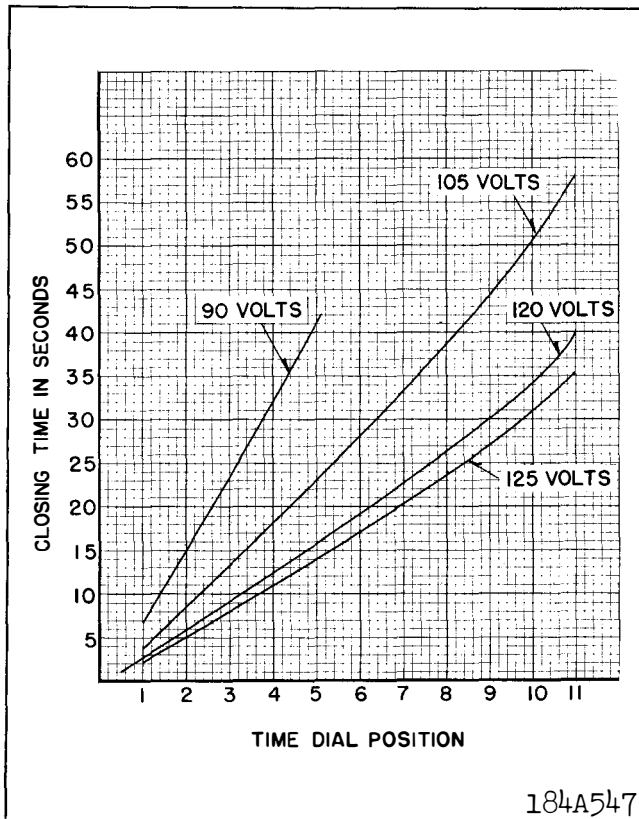

Fig. 4. Typical Time Curves of the Timer Unit of the 120 volt Type CRN-1 Relay. Proportional voltage apply for the 208 volt relay.
The timer unit is rated at 120 or 208 volts, 60 cycles. The minimum trip value is 54% of rated voltage. The continuous overload capacity is 110% of rated voltage. Characteristic time curves are shown in Fig. 4 for various voltages and time lever settings.
it is adjusted by the time dial position. Fig. 4 gives a curve of time delay vs time dial setting for various impressed voltages. Time is approximately proportional to time dial setting.
3. Time Curve – Fig. 4 shows the time curve for the CRN-1 relay. With the time dial set to the indicated position, apply the voltages specified and measure the operating time of the relay. The operating times should equal those of Fig. 4 plus or minus 5 percent.